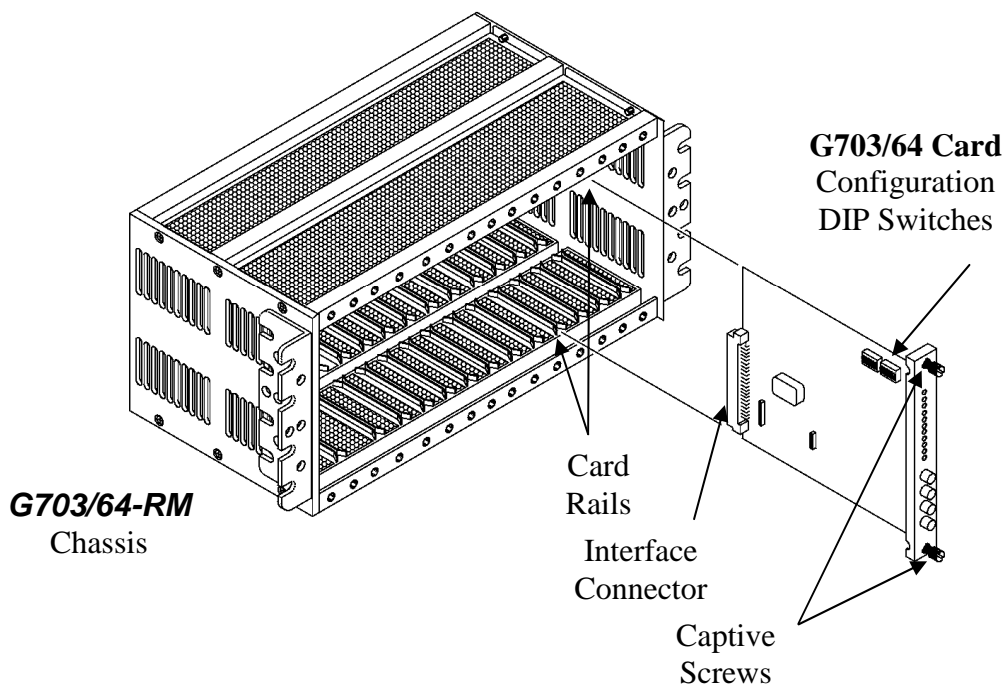

Figure 3-1 : Removal/Replacement of G703/64 Card in G703/64-RM Chassis
Removal of a **G703/64 Card** is accomplished by loosening the two (2) captive screws on the face plate of the card module, and then pulling the card straight out of the chassis with the same screws. Apply equal pulling force to both top and bottom captive screws to avoid the card binding in the rails of the chassis. (refer to Figure 3-1) Replace the card by reversing the procedure, align in the slot groove and gently seat the card. Retighten the captive screws.